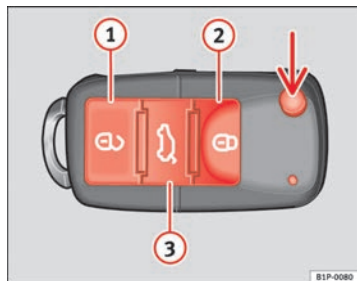

Fig. 44 Assignment of buttons on the remote control key
Using the button \Rightarrow fig. 44 (arrow) on the control, the key blade is released.
Unlocking the vehicle \Rightarrow fig. 44 ①.
Locking the vehicle \Rightarrow fig. 44 ②.
Unlocking the tailgate. Press button \Rightarrow fig. 44 ③ until all the turn signals on the vehicle flash briefly. When the unlocking button \Rightarrow fig. 44 ③ is pressed, you have 2 minutes to open the door. Once this time has passed, it will lock again.
- Press the  button **2** ⇒ page 78, fig. 44 on the remote control.
- Press the  button **1** ⇒ page 78, fig. 44 on the remote control.